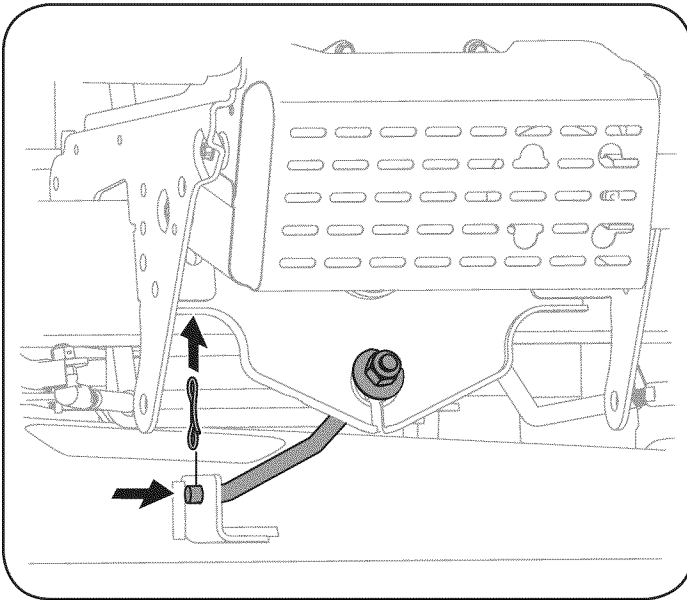

Figure 18
8. Remove the bow-tie cotter pin securing the deck stabilizer rod to the deck. Slide the deck lift rod from the mounting bracket on the deck as seen in Fig. 18.